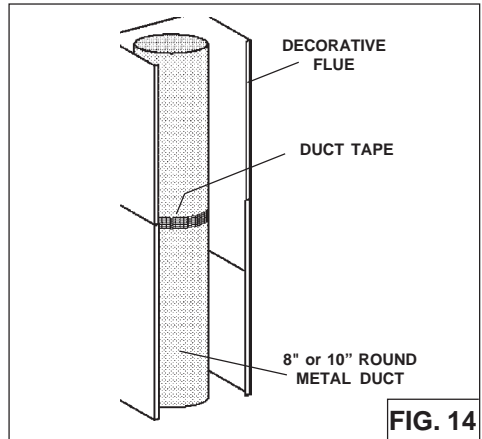

FIG. 14
2. Run 8" WPPIQ or 10" WPPIQT & WPPE diameter metal ductwork to the outside location (Fig.14).